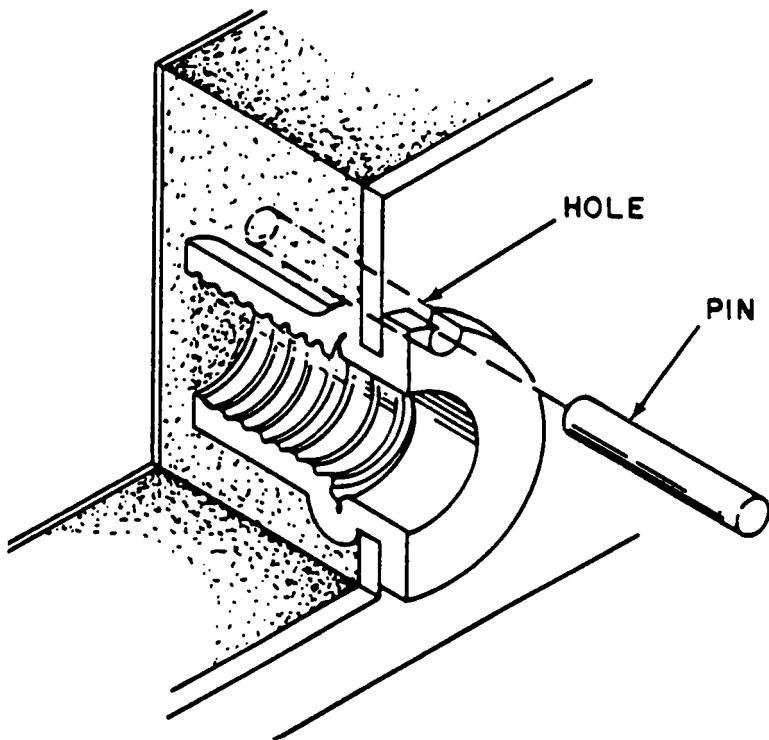

Figure 3-11. Repair of Turning Rivnut
- (3) *Repair.* (Figure 3-11) When excessive torque is applied on screws attached on rivnuts, it may cause a rivnut to turn (spin). Table 3-4 provide the maximum torque requirement for hardware to prevent rivnut turning. To correct a turning rivnut, proceed as follows:
- (a) Drill a .062 (.003, -.001) diameter hole by 1.00 inch long on the stem of the turning rivnut as shown in Figure 3-11.